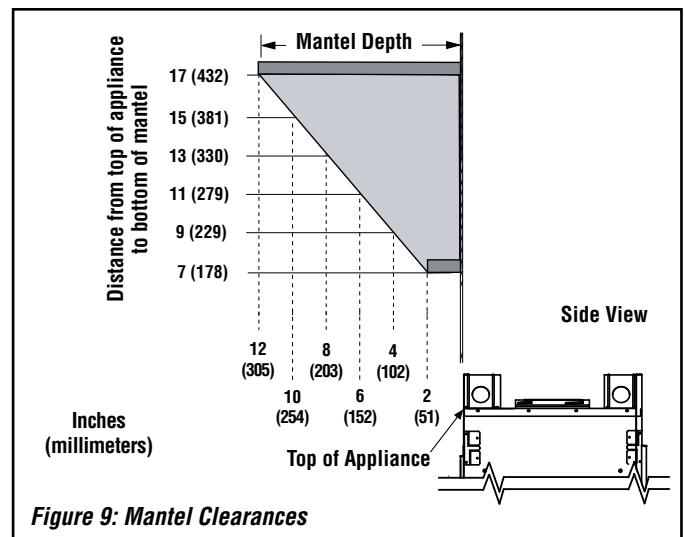

Figure 9: Mantel Clearances
- Vertical installation clearances to combustible mantels vary according to the depth of the mantel (see **Figure 9 on Page 9**).
Vertical installation clearances to combustible mantels vary according to the depth of the mantel (see **Figure 9**). Mantels constructed of non-combustible materials may be installed at any height above the appliance opening.